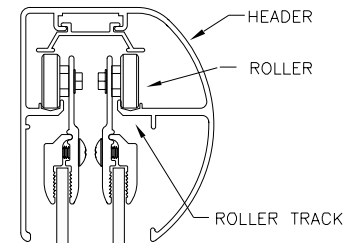

figure 6
9. While standing inside shower enclosure, install the outside Glass Panel (D) by lifting the Panel up and into the Header (B). Lower the Panel into the Track Guide (I) and engage the Rollers (d3) with the roller track as shown in figure 6.